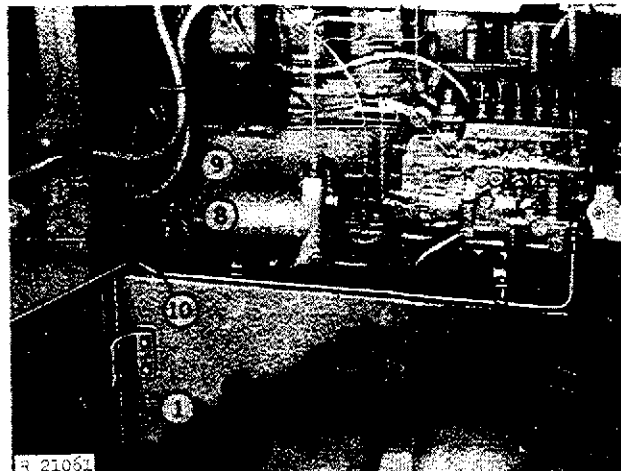

Fig. 11-Right-Hand Side Removal Steps
8. Disconnect cooler return pipe at hose connection between side frame and clutch housing (Fig. 11).